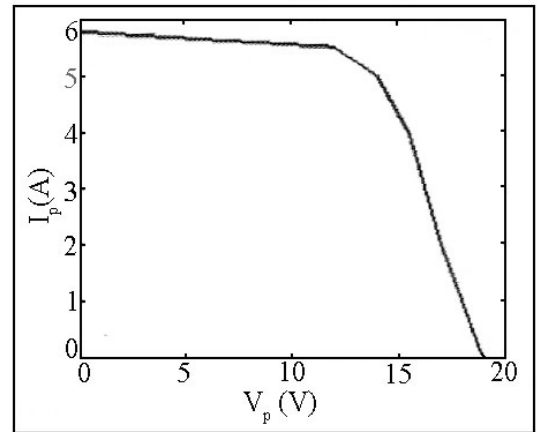

Fig.5: “ $V_p$  VS.  $I_p$ ” (EXP) OF PV PANEL
$P_m = 148 \text{ W}$ ,  $V_m = 16.4 \text{ V}$ ,  $I_m = 9 \text{ A}$ , Sun Technics Make.  $V_p$  -  $I_p$  characteristics are obtained experimentally at a radiation corresponding to  $I_{sc} = 5.8 \text{ A}$  (Figure 5). Pure resistance  $R = 2 \Omega$  is considered as load. Using (2),  $R'$  is calculated for different values of  $D$ . By superimposing  $R'$  lines on the  $V_p$ - $I_p$  plot of Figure 5, different operating points ( $V_p$ ,  $I_p$ ) are obtained. With these,  $P_p$ ,  $V_a$  &  $I_a$  are obtained using (3), (4), (5) & (6) and tabulated (Table 1). It is observed from Table 1, that, with change in  $D$ , as load voltage  $V_a$  increases (decreases), load power  $P_a$  and panel power  $P_p$  also accordingly increase (decrease).  $P_a$  becomes maximum when  $V_a$  becomes maximum. This is in accordance with (10).